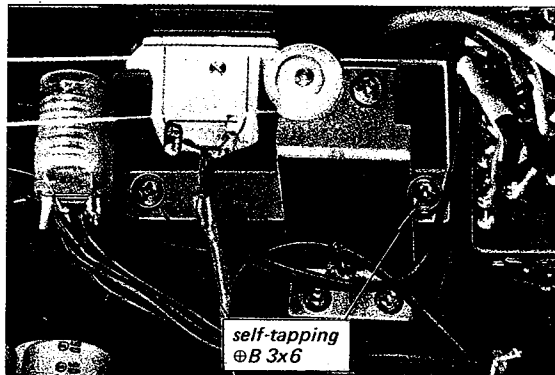

Fig. 2-15. Meter holder replacement
3. Remove the two self-tapping screws ( $\text{B } 3 \times 6$ ) securing the meter holder to the chassis as shown in Fig. 2-15.